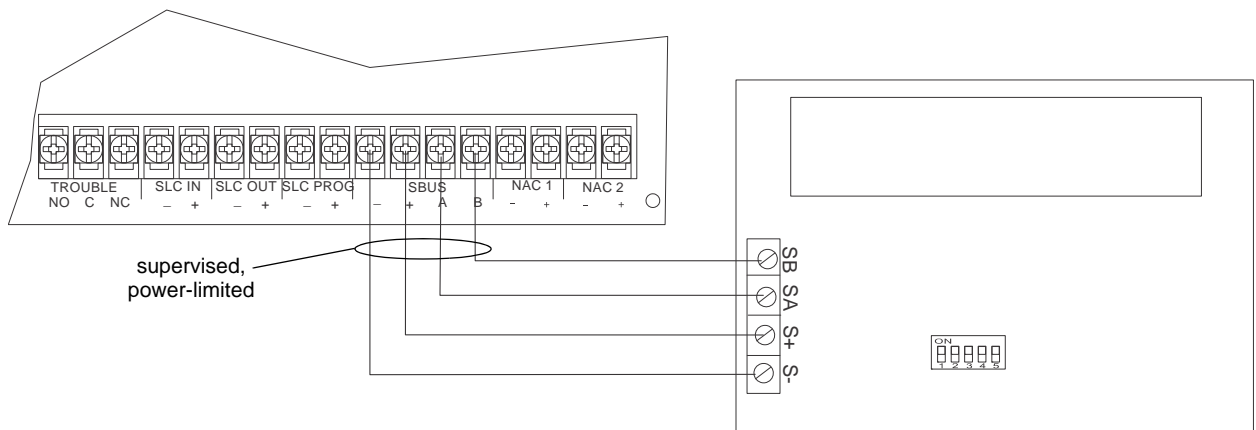

Figure 4.21 TR-RD2G/R Connection to the Panel
3. Wire the annunciator board to the main control panel as shown in Figure 4.21.
- Run wires to the control panel. Refer to Figure 4.21.